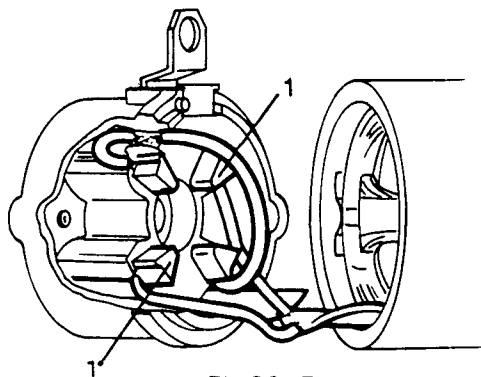

Fig O6.17
(1) Refer to Fig O6.17. For the field coil brushes (1) cut the brush flexible leads leaving approximately 6 mm of lead each side of the coil end.
(2) Solder the new brushes to the remaining ends of the old leads.